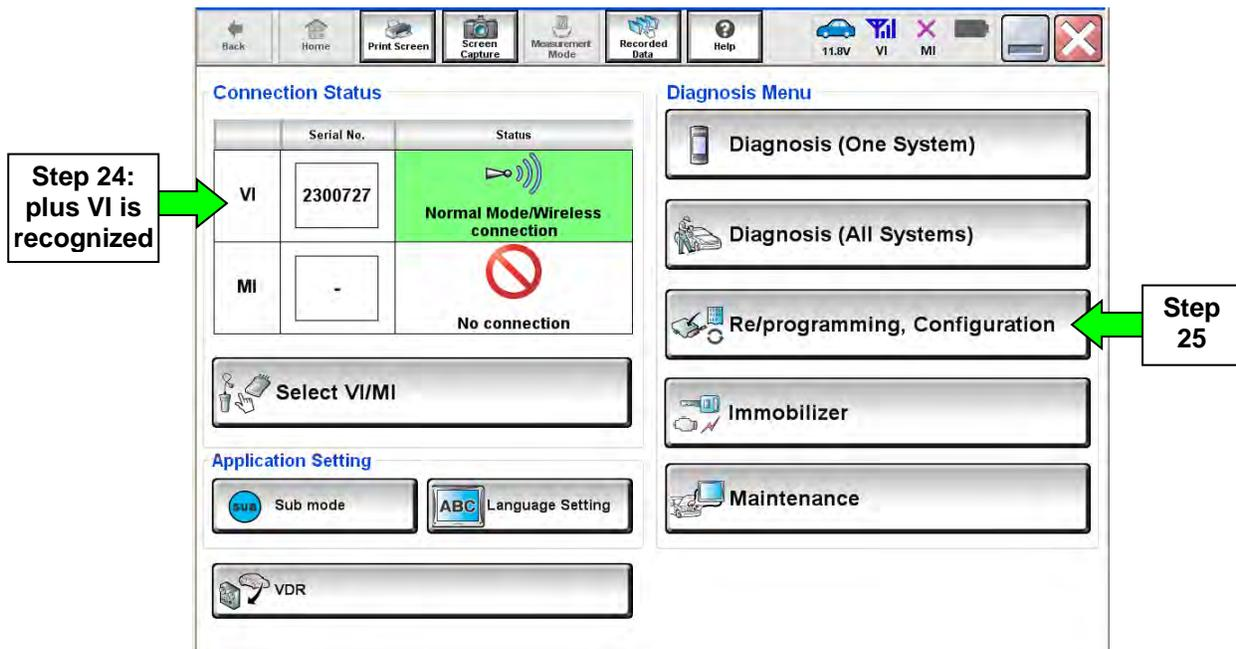

Figure 23
22. Return to the C-III plus Home screen (see Figure 23).